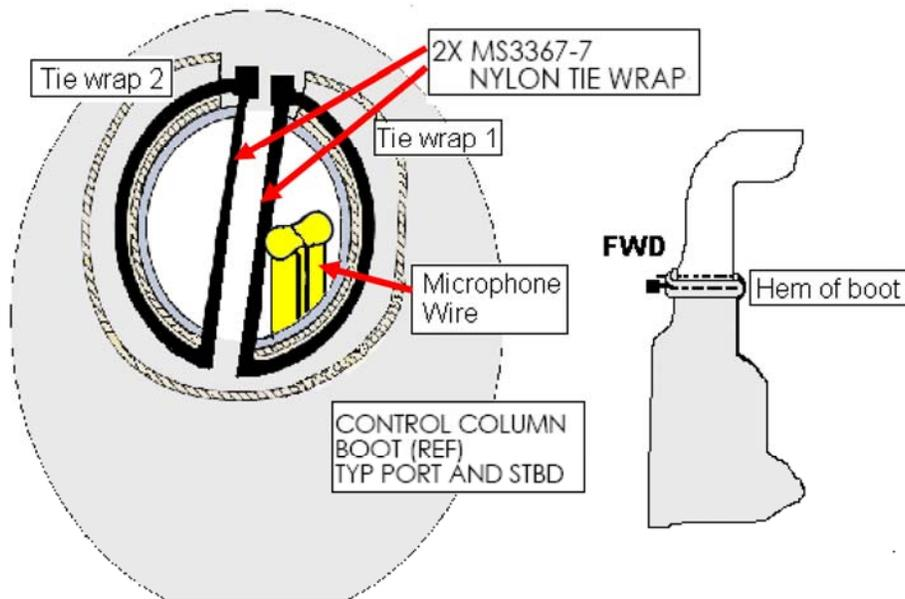

Figure 27-59 Installation of the Tie Wraps to Secure the Boot to the Control Yoke
4. Thread the tie wraps through the hole in the control yoke. See Figure 27-59.